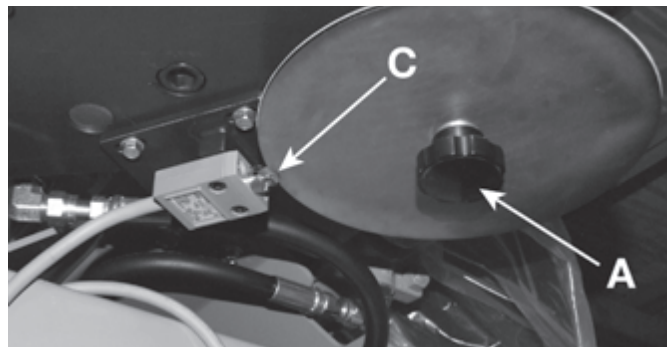
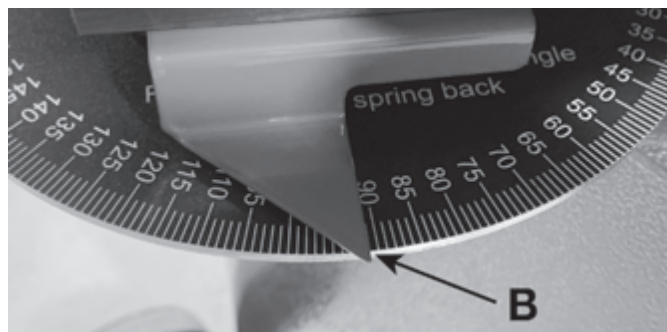

Figure 8.9 - Auto-Stop Knob
Figure 8.10 - Auto-Stop Setting
Note: Do not adjust the micro switch mounting bracket; this is preset from the factory. Use only the black Auto-Stop Adjusting Knob (A, Figure 8.9) to adjust the dial.
1. **Method #1:** Using the Auto-Stop (lower) Degree Dial, set the lower pointer to the desired degrees by loosening the Auto-Stop Adjusting Knob (A, Figure 8.9) and rotating the Auto-Stop degree Dial until the desired bend angle plus spring-back is displayed (B, Figure 8.10).
Example: Bend a piece of material to a desired angle using the Main (top) Degree Dial only. Once you are at the final bend position, stop with the material still in the machine. Loosen the Auto-Stop Adjusting Knob (A, Figure 8.9) and rotate the Auto-Stop degree Dial to “0” degrees (B, Figure 8.10). You will feel a definite “click” latching the dial in position; this is the spring-loaded micro switch (C, Figure 8.9) holding the dial in position.